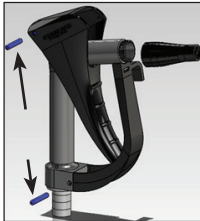

Figure 2
2. Using an arbor press and 6 mm punch insert, press out the trigger retaining pin and trigger guard retaining pin (Figure 2 & 3).